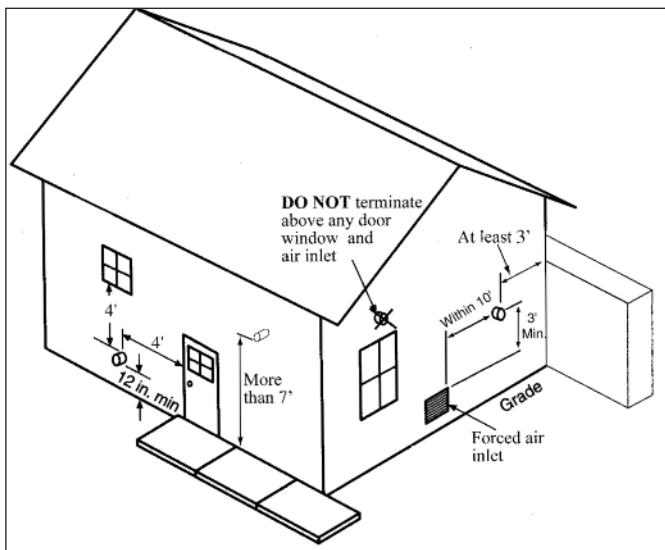

Fig. 24: Termination Clearances of Category IV System
5. The vent termination must also maintain the following clearances; as shown in Fig.24.
5. The vent termination must also maintain the following clearances; as shown in Fig.24, page 27.